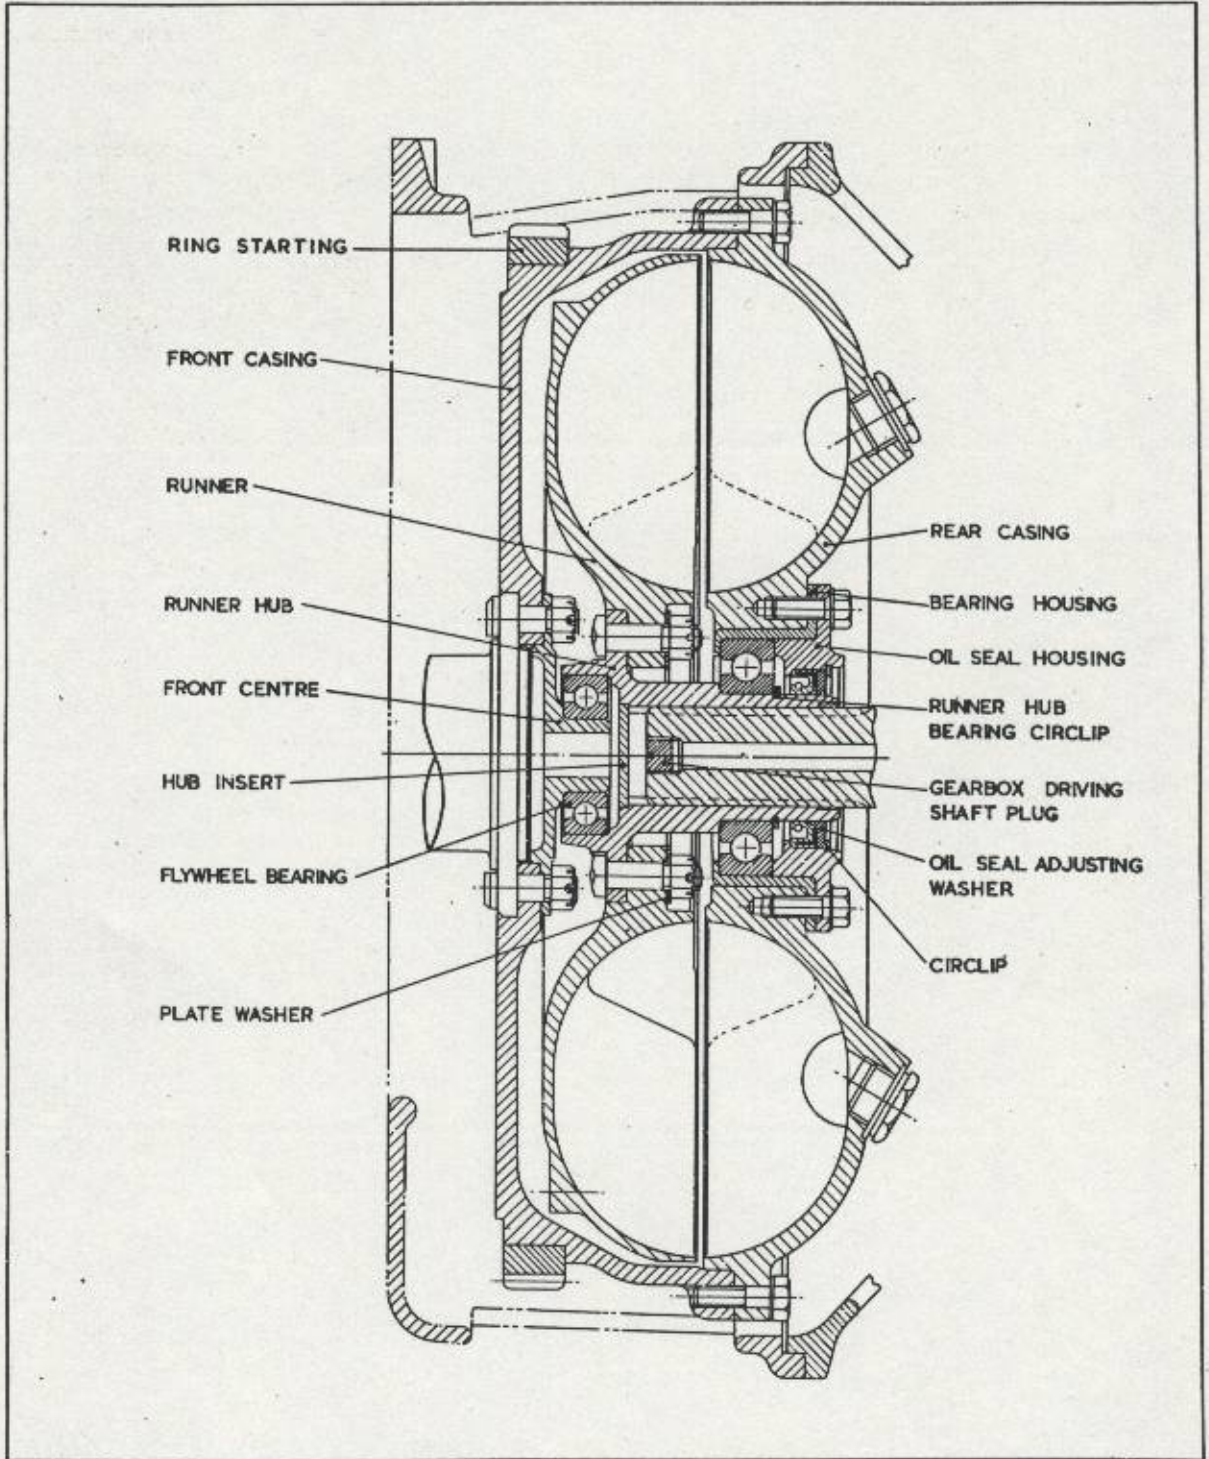

FIG. 15 - FLUID FLYWHEEL - GENERAL ARRANGEMENT
29. Dismantling, Figs. 15, 16 and 17:-